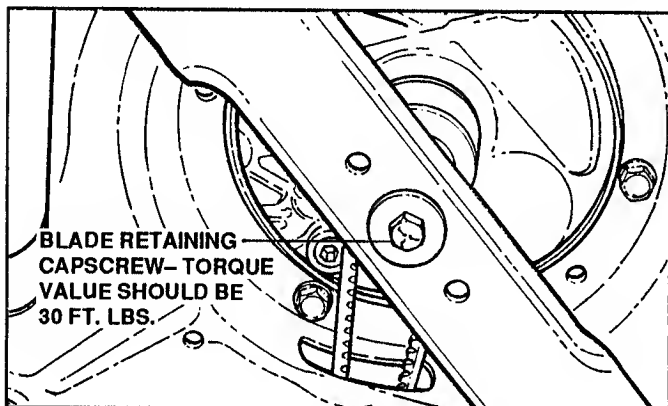

FIGURE 3.4
2. Tilt mower up on its rear wheels for access to the blade capscrew. Do not tilt mower with spark plug or carburetor down. See Figure 3.4
3. Check torque value of blade retaining capscrew. It should be 30 ft. lbs. torque. See Figure 3.4